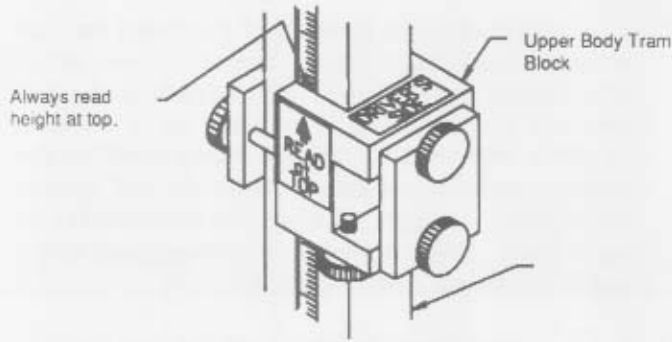

Figure 7
- I. The \square symbol found under \triangle symbol indicates height for mounting upper body tram block on vertical leg. For example: $\triangle 460$. Each block is mounted on outside of vertical legs. Be sure to note driver's side (left side) and always read height at top of block on front side of vertical leg. (See Figure 7.)